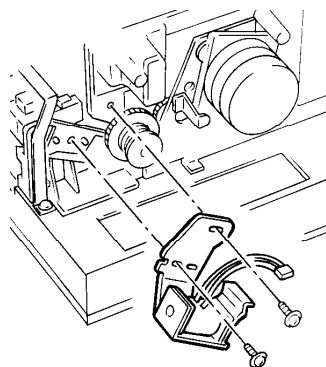

Figure 1. Feed solenoid
6. Remove the two screws retaining the solenoid to the chassis (figure 1).